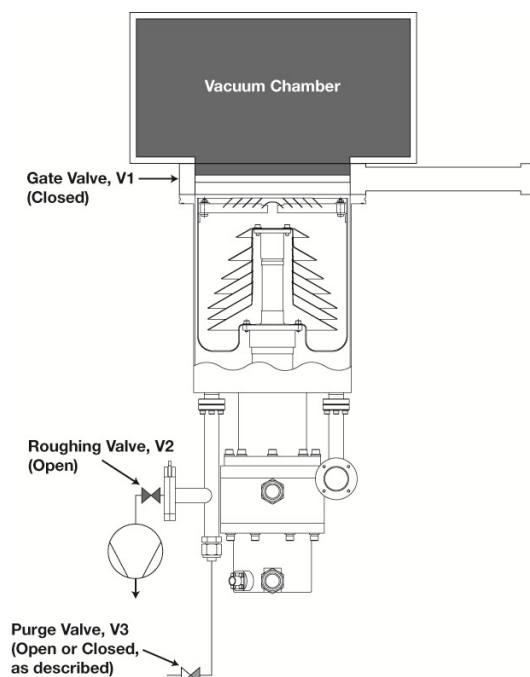

Figure 13 Evacuate the Cryopump
1. See Figure 13. Open rough valve (V2) and evacuate for at least 30 minutes at 5×10^{-1} torr to fully desorb gases from the cryopump. Bleed in a reduced flow of dry nitrogen gas through the purge port (V3) or into the roughing pump manifold to maintain 5×10^{-1} torr.